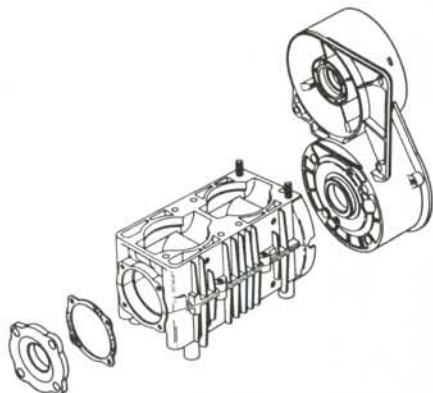

Fig. 11—On small block engines, end plates control crankshaft end play instead of snap rings shown in Fig. 10.
**Fig. 9—** Exploded view of major housing components used on axial fan models. Note split cylinder shroud and two-piece intake manifold. Minor differences exist between large and small engines; refer also to Fig. 11.
**Fig. 10—** Exploded view of crankshaft, pistons and associated parts used on big block axial fan models. Small block engines are similar except end plates (Fig. 11) control crankshaft end play instead of snap rings (6 & 12).
When reassembling the engine, make sure all parts are clean. Install crankcase through-bolts in lower crankcase half and attach crankcase half to a suitable engine stand, then lower crankshaft in position. On large block engines, install the removed shim packs (7 & 11—Fig. 10) and fit snap rings (6 & 12) in crankcase bore grooves. On small block models, install removed shim packs and end plates (Fig. 11). On all models, slide crankshaft toward flywheel end and measure crankshaft end clearance using a feeler gage as shown in Fig. 8. Clearance should be 0.006-0.012; if it is not, vary the thickness of either shim pack (7 or 11—Fig. 10). Shims are available in thicknesses of 0.006 and 0.012. On engines so equipped, remove end plates leaving shim packs in place; on other models, position oil seals (5 & 13—Fig. 10) on shaft in lower crankcase half. Lubricate all bearings using light oil and coat both crankcase mating flanges with